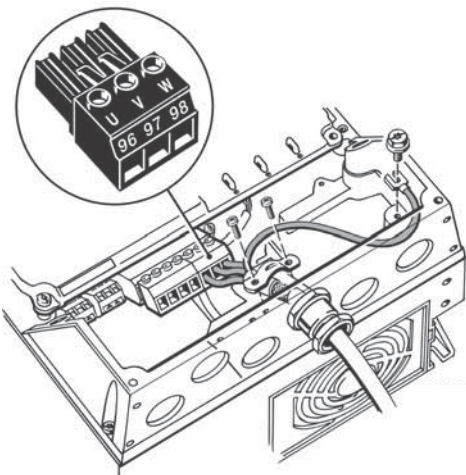

Fig. 13 Motor connection, A5
1. Connect the earth conductor to terminal 99 (PE). See fig. 13.
2. Connect the motor conductors to the terminals 96 (U), 97 (V), 98 (W) of the motor plug.